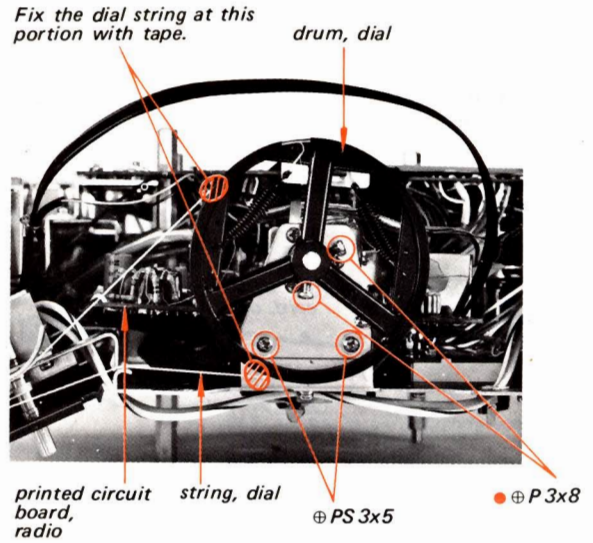

Fig. 2-3-1. Radio circuit board removal
1. Fix the dial string at the hatched portions in Fig. 2-3-1 with tape.
2. Loosen the two screws marked ● in Fig. 2-3-1 and remove the dial drum.
3. Remove the two screws marked △ in Fig. 2-3-1.